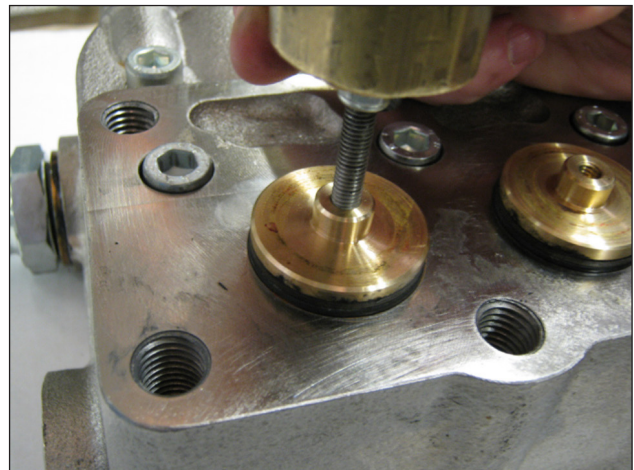

Fig. 17
- The KT24-28-30-32-WK155-WK6 pump suction and outlet valve plugs (Fig. 17);